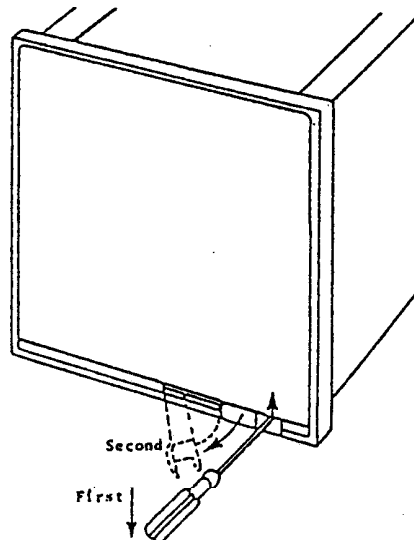

FIGURE 4-1 WITHDRAWING THE CONTROLLER FROM ITS CASE
- 1) Insert a small screwdriver into the slot at the lower right corner of the front panel, gently lever up the catch and pull out the lever until it is at 90°. See Figure 4-1.